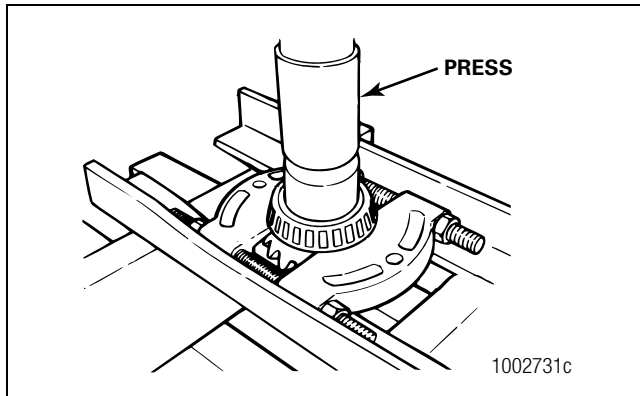

Figure 3.27
11. Use a press, sleeve and bearing puller to remove the cone from the rear side gear. Figure 3.27.